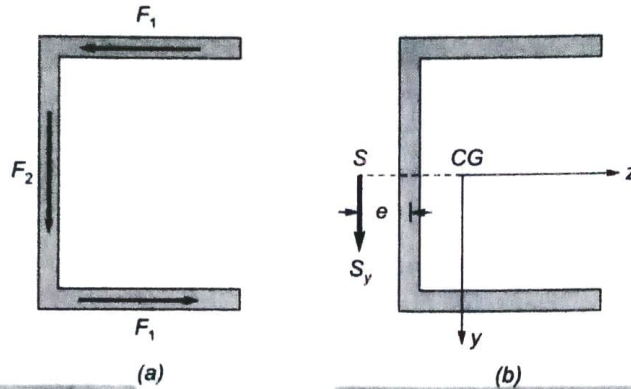

Fig. 13.5
1. **Channel section:** Consider a channel section as shown in figure 13.5, bending take place about z-axis. Assuming section is subjected to vertical shear force S_y parallel to y-axis.